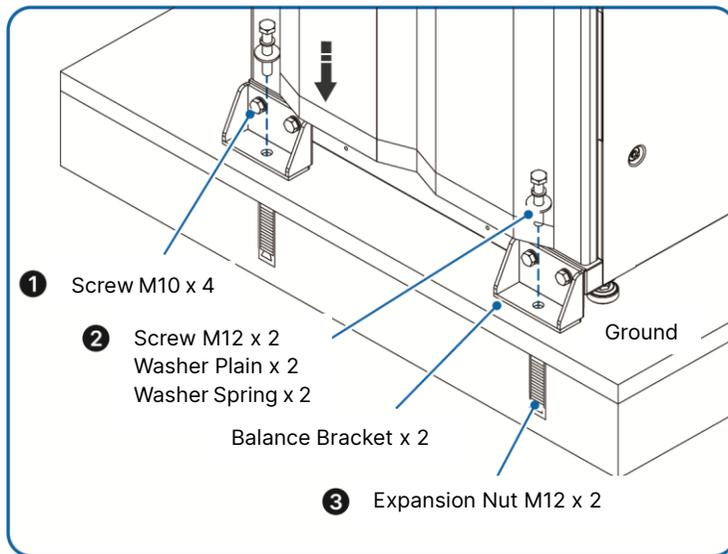
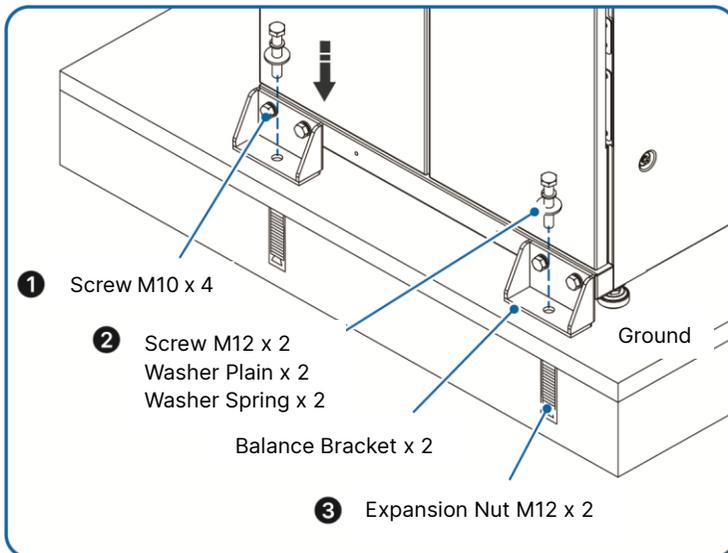

Figure 5-3: Balance Bracket Installation_ Front of the UPS
Figure 5-4: Balance Bracket Installation_ Rear of the UPS
Use eight M10 screws (four for the front, four for the rear) ① and four expansion M12 screws, washer plains and washer springs (two for the front, two for the rear) ② to fix the UPS on the ground with four balance brackets. Please refer to *Figure 5-3~ Figure 5-4*. The eight M10 screws and the four balance brackets are those been taken apart from the UPS earlier while moving the UPS from the pallet to the ground (see *5.3 UPS Transportation*). As for the four expansion nuts, they should be provided by qualified service personnel.